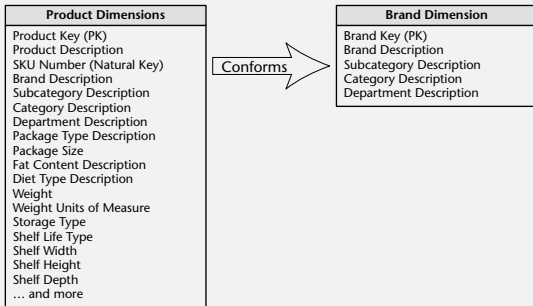

Figure 14: Conforming Rollup Dimension Subsets
- Attributes that are common to both the detailed and rolled-up dimension tables, such as the *brand* and *category* descriptions, should be **labeled**, **defined**, and **valued** identically in both tables, as Figure 14.